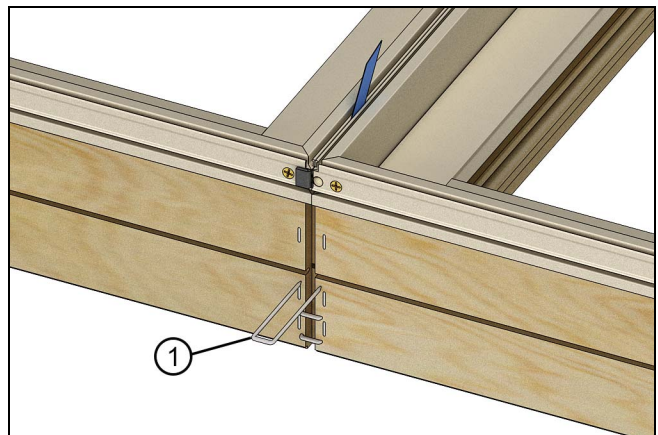

Figure 19
6. Fasten the ends of the mulls with three 1 1/4" 16 gauge staples spaced evenly to the interior side of the kerf in the wood members. See Figure 19.